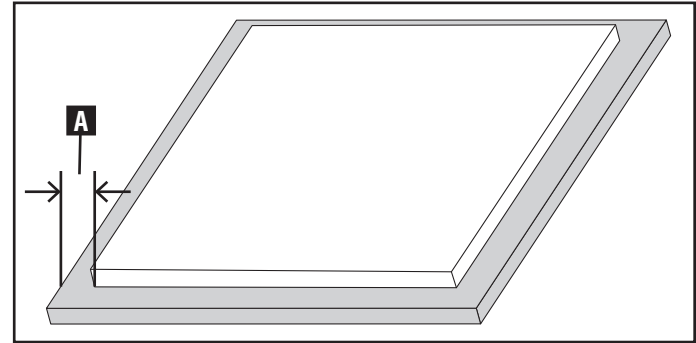
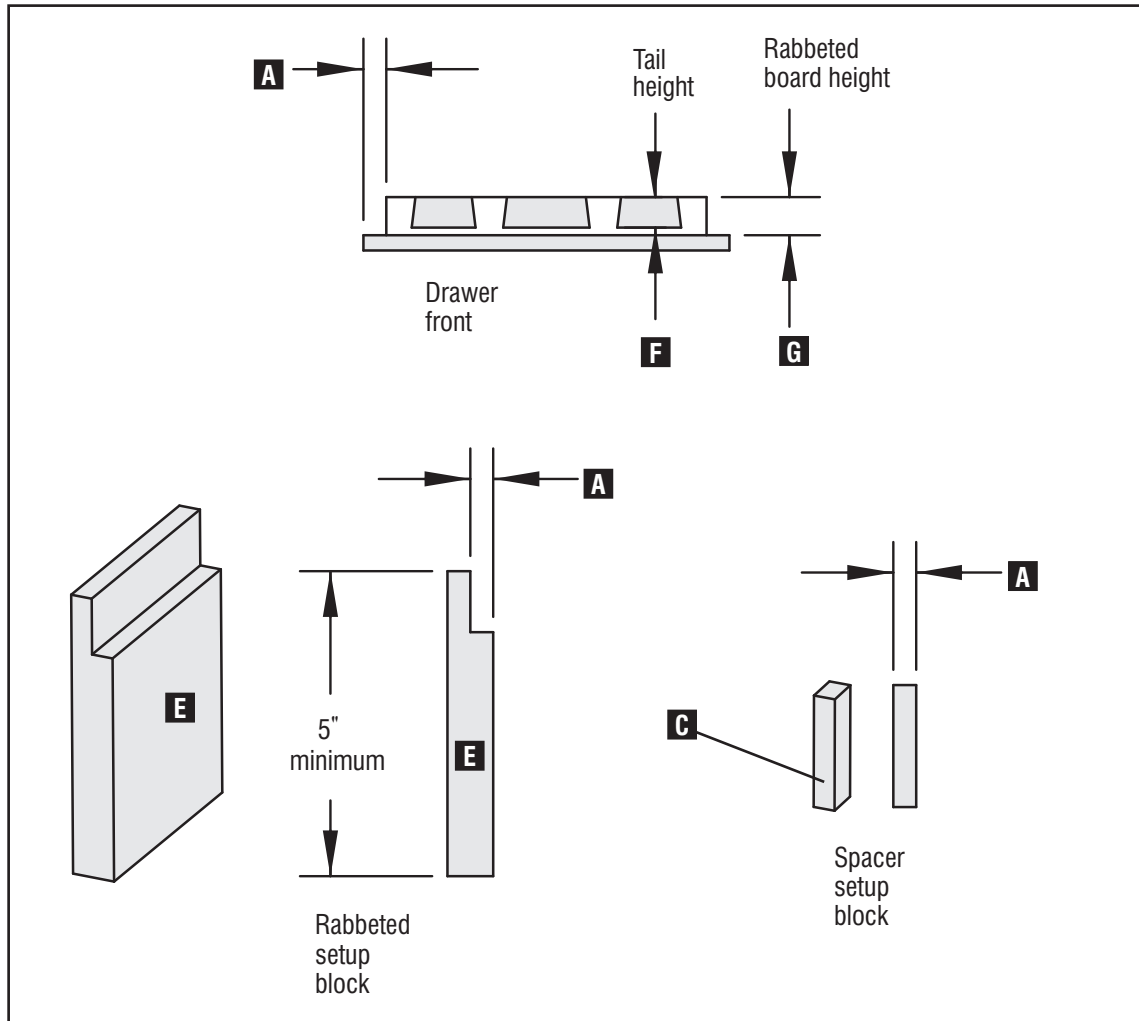

Fig. G2
Fig. G3
NOTE: The instructions in this chapter are assuming your rabbet width (A) Fig. G2 is the same on all four sides.
- A **rabbeted setup block** (E) Fig. G3, where (A) Fig. G3 is equal to your rabbet width (A) Fig. G2.
- A **spacer setup block** (C) Fig. G3 that is as wide as (A), your rabbeted width.